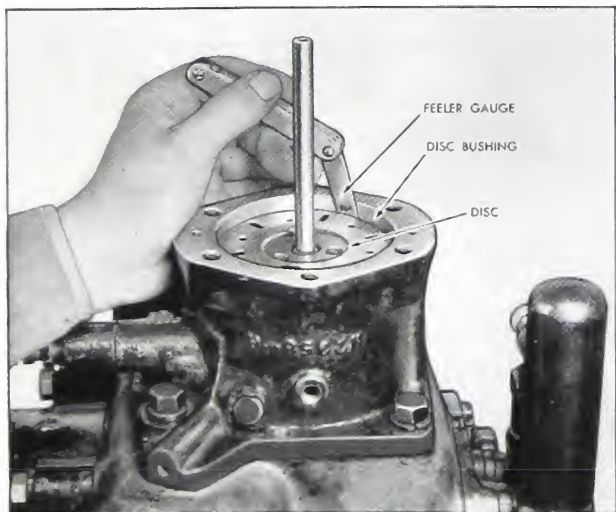

Fig. 5-76. Disc and bushing clearance
2. The new ring must be scraped in with a bearing scraper to fit the distributor disc. This must be done carefully and frequent checks made for fit. When finished, there should be a minimum .005 clearance around the entire circumference of the disc between the disc and ring. See Fig. 5-76.